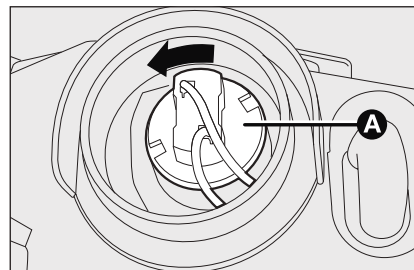

fig. 22
- ☐ turn the bulb holder clockwise **A**-fig. 22 and withdraw it;